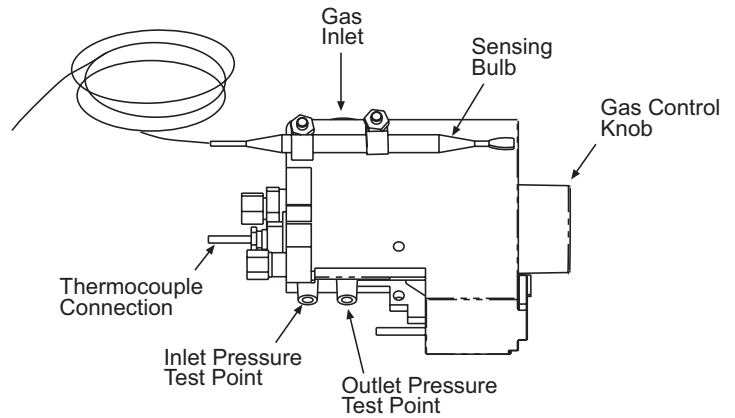

FIGURE 6a
- INLET PRESSURE can be checked by turning the captured screw (see Figure 6a) counter clockwise \curvearrowleft 2 or 3 turns and then placing the tubing from the gauge over the test point.